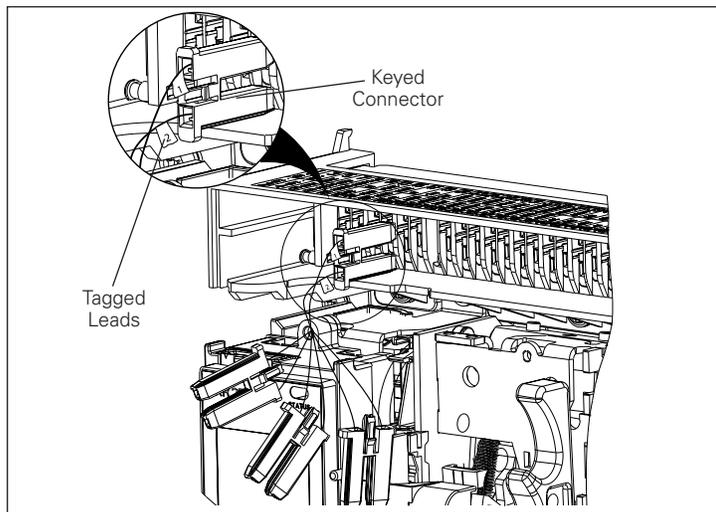

Figure 30. Leads and Connectors.
1. Electrical accessory leads are tagged with numbers associated with the applicable connection diagram located in instruction book MN013001EN (NF) and MN013002EN (RF). Leads are also supplied with keyed secondary connector plugs to ensure proper connections (Figure 30).